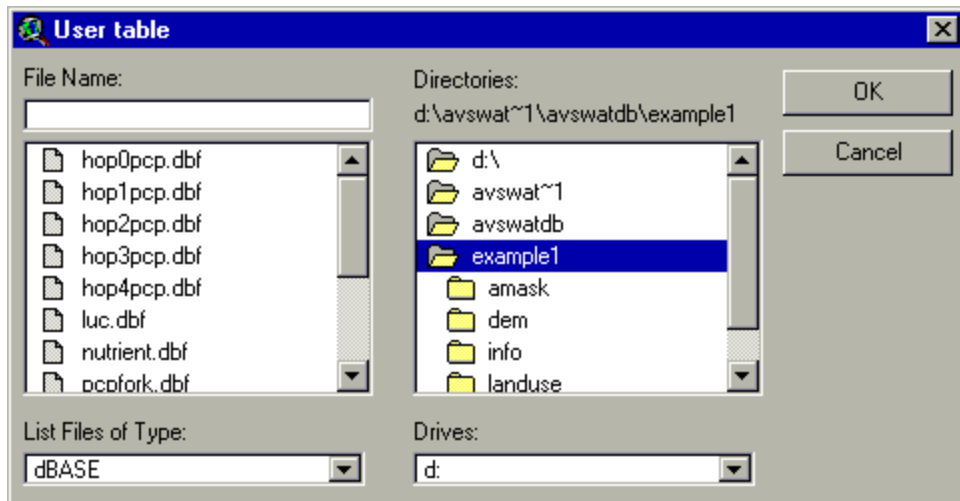

Figure 6.23
- iv. A browser will appear, allowing you to select and load the look-up table from disk (Figure 6.23).